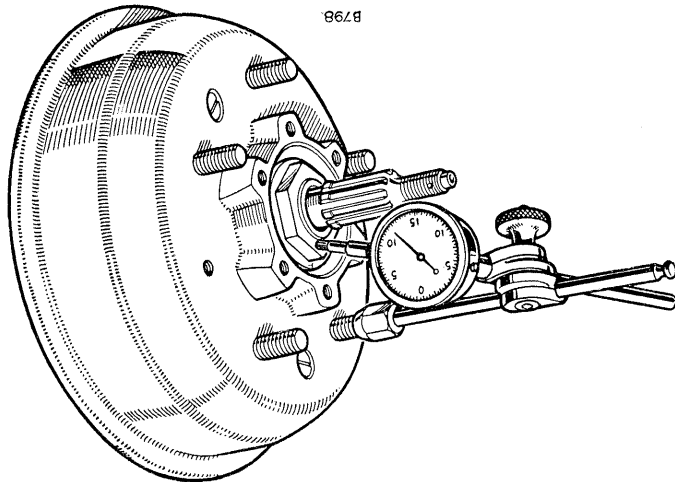

Fig. F-12—Checking hub end-float
3. Mount a dial test indicator on one of the road wheel studs using the bracket, illustrated at Fig. F-12. The total hub movement should be .004-.006 in. (0,10-0,15 mm).